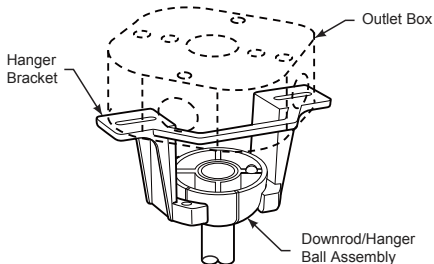

Figure 4
- ☐ 4. Thread downrod into the downrod support on top of the motor. Install the clevis pin by aligning the holes in the downrod support with holes in the downrod. Secure clevis pin with hairpin clip. Tighten the two set screws with locking nuts in the downrod support. (Figure 4)
- ☐ 2. Carefully lift the fan and seat the downrod/hanger ball assembly onto the hanger bracket that was just attached to the outlet box. Be sure the groove in the ball is lined up with tab on the hanger bracket. (Figure 4) This fan is intended for standard and angled mounting options only. Closemount and flushmount options are not available. For angled ceilings, note the angle can be no more than 19°.